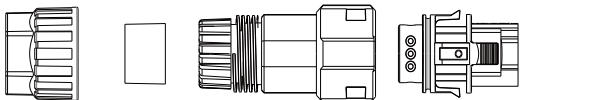

FIG.3 Components of Connector
1) Diagram of connector , as per FIG.3.